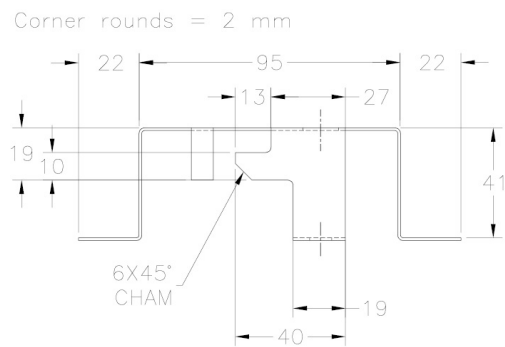

Figure 15-92d Front view of the Holder Clip
3. Similarly, again define a sketch plane on the front face of the third contour flange and create a new rectangular face by using the **Face** tool, refer to Figure 15-92d for dimensions.
4. Next, add the corner chamfer by using the **Corner Chamfer** tool, as shown in Figure 15-102, refer to Figure 15-92d for dimensions.